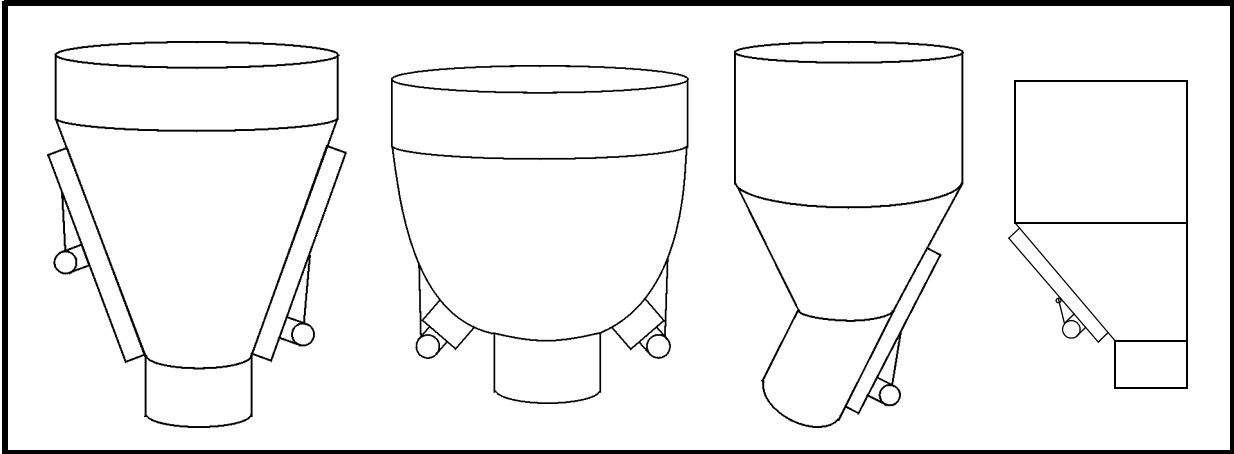

Figure 1. Locating Vibrator on Hoppers
1. See Figure 1. Locate vibrator in lower 1/4 to 1/3 of structure slope length. If second vibrator is required, mount 180° from first vibrator and halfway up slope.
- a. Locate reinforcing beam so vibrator can be positioned as shown in Figure 1 or 2.
- b. Locate plate so that vibrator can be positioned as shown in Figure 1 or 2.